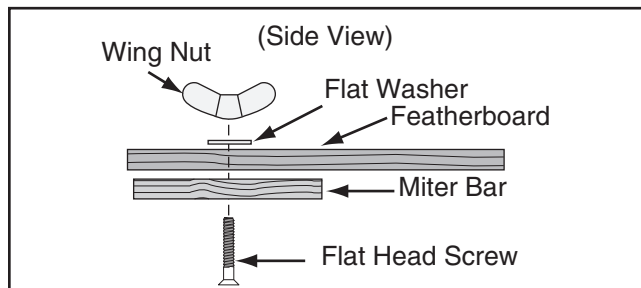

Figure 128. Assembling miter slot featherboard components.
8. Assemble miter bar and featherboard with $\frac{1}{4}$ "-20 x flat head screw, flat washer, and a wing nut or a star knob (see **Figure 128**). Congratulations! Your featherboard is complete.